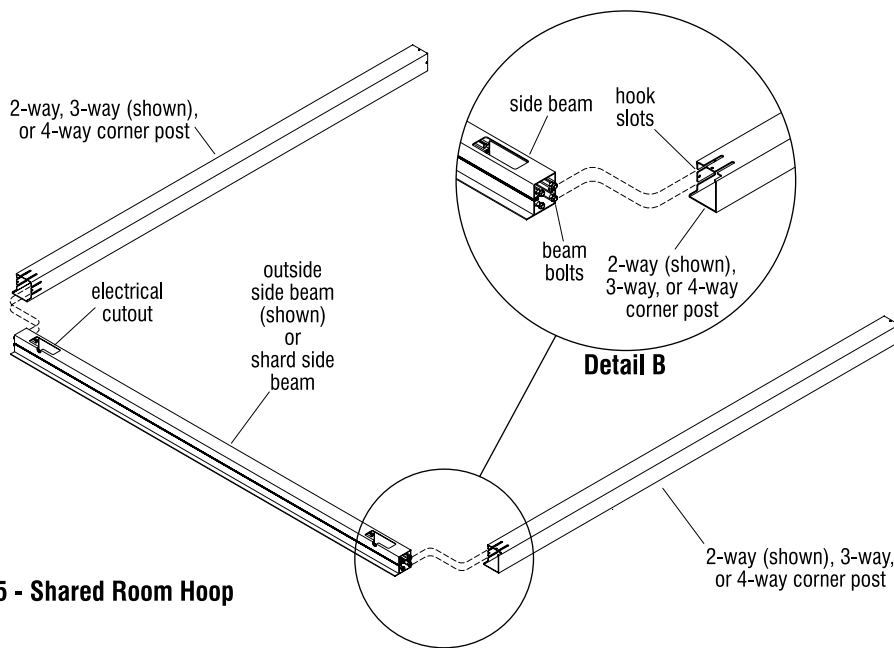

Figure 5 - Shared Room Hoop
electrical cut-outs near the ends. Reference the shop print and locate the correct side beams for the first room of the shared super structure being assembled (Figure 5).
10. Beams are shipped with four factory installed bolts inside the ends, which are intentionally left backed-out 1/2" to help with nesting the bolts of the beam into the slots of the corner posts. Assemble side beam to each of the two posts as illustrated to form a “hoop”, but do not tighten the bolts at this time (Figures 5 & 6, Detail B).
11. Repeat the steps above to assemble the second beam to corner posts “hoop” assembly, required for the first room of the shared room super structure (Figures 5 & 6).